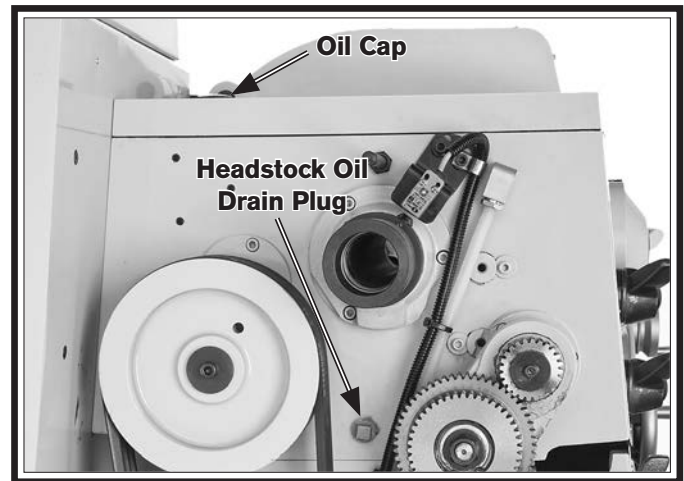

Figure 99. Headstock oil cap and drain plug.
6. Remove the oil cap from the top of the headstock (see **Figure 99**). This allows the oil to flow freely from the headstock in the next step.